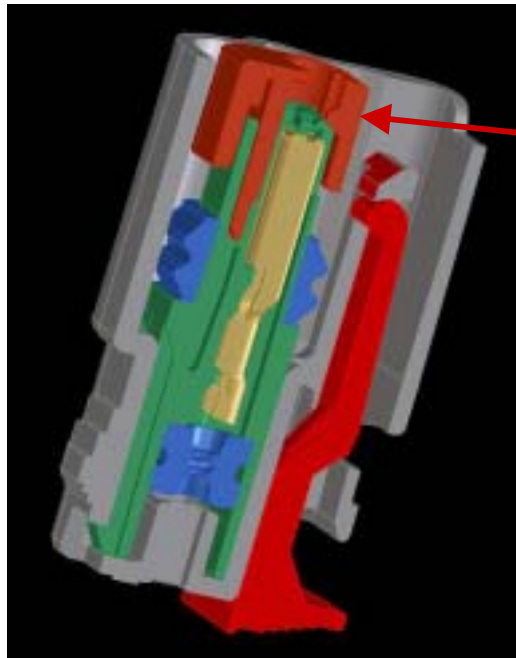

Fig. 3-1
A. TPA shown in “As-Shipped” position (FIG. 3-1)
n TPA to remain in pre-lock position (as shipped) until all circuits are loaded (Fig. 3-1)